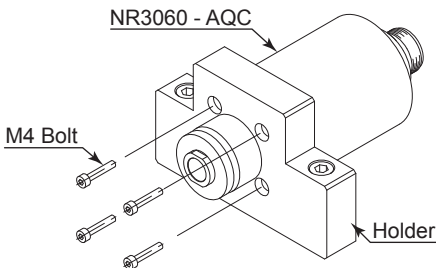

Fig. 16 Front side
- (2) Secure the Spindle into the holder by using the bolts (4pcs.) and the Mounting Screw Hole (4 locations) on the Spindle as shown in Fig. 16 and 17.